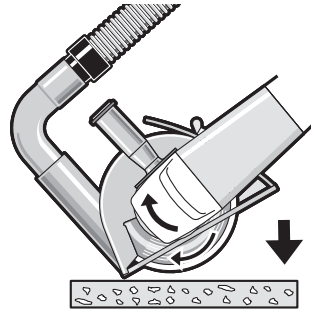

FIG. 19
- a. Tilt tool forward with wheel lined up with the cut line and hold the tool by the grinder body and the auxiliary handle (Fig. 19).